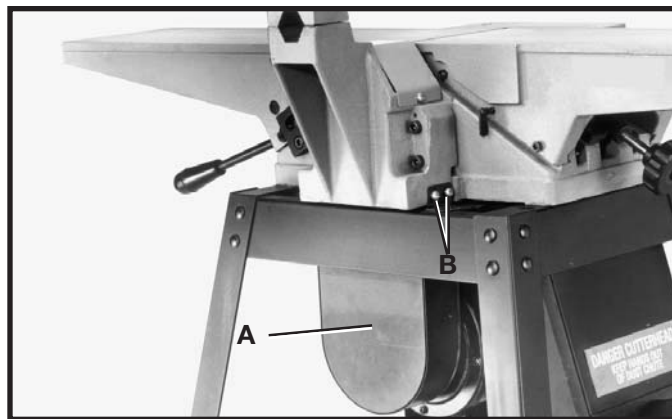

Fig. 19
Assemble the motor pulley and belt guard (A) Fig. 19, to the jointer base using the four M6x1x10mm cheese head screws, two of which are shown at (B), and four M6.1 lockwashers.